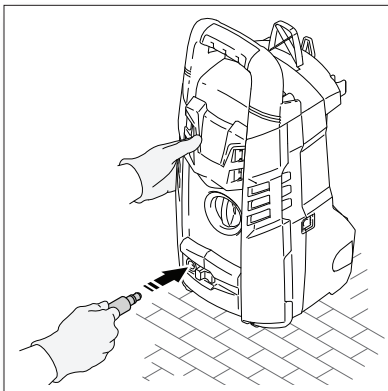

Fig. 3
- Attach the 20’ high pressure hose to the unit by pressing firmly into the front port **(Fig. 3)**.